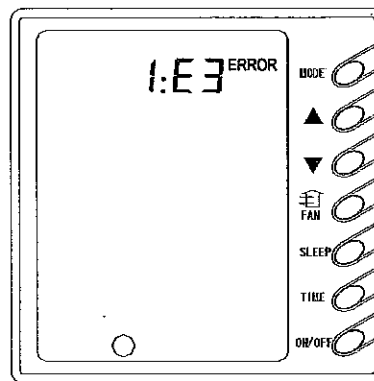

Fig 13
12) Failure Display (Figure 13)
When there is failure in the unit operation, "ERROR" will flash on the LCD of the wire controller and the code of failure will also be displayed. When there are multiple failures at the same time, the codes of failures will be displayed one after one on the wire controller. The first digit of the code denotes the system number. When there is only one system, the system number is not displayed. The last two digits denote the detailed failure code. For example, the code in Figure 13 means low pressure protection of compressor.